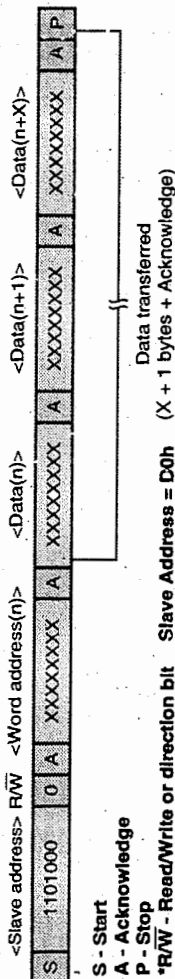

Fig. 14.9.2: Data Write – Slave Receiver Mode
- Fig 14.9.2 shows how the START and STOP conditions are recognized as the beginning and end of a serial transfer .